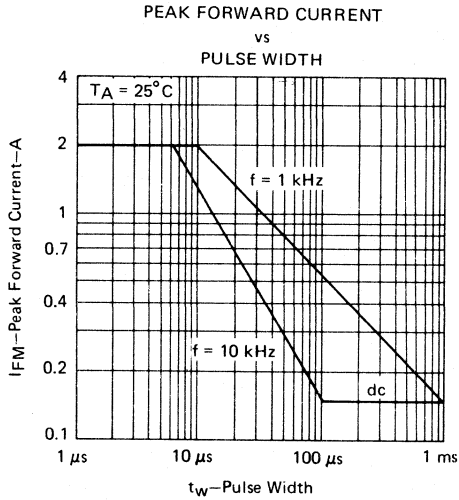

FIGURE 1
2. This value applies for $t_w \leq 10$ μ s, $f \leq 1$ kHz. See Figure 1.